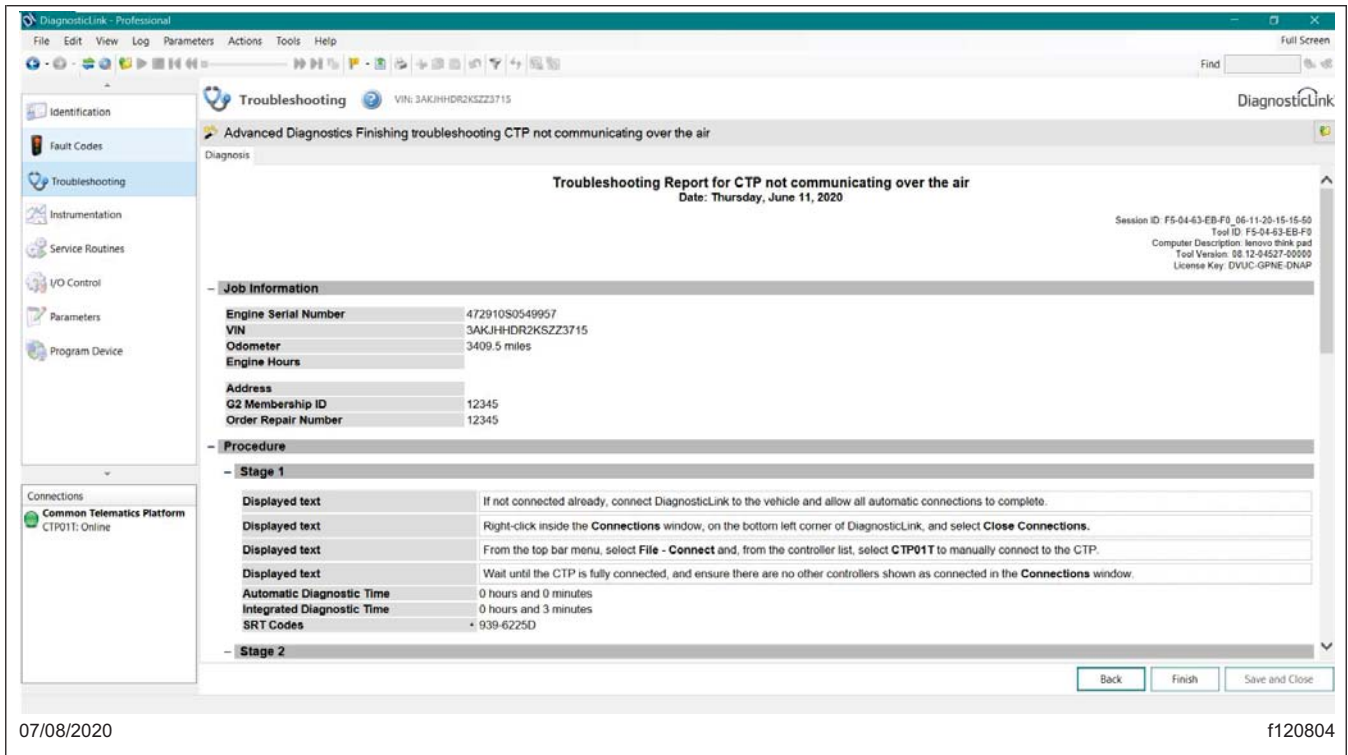
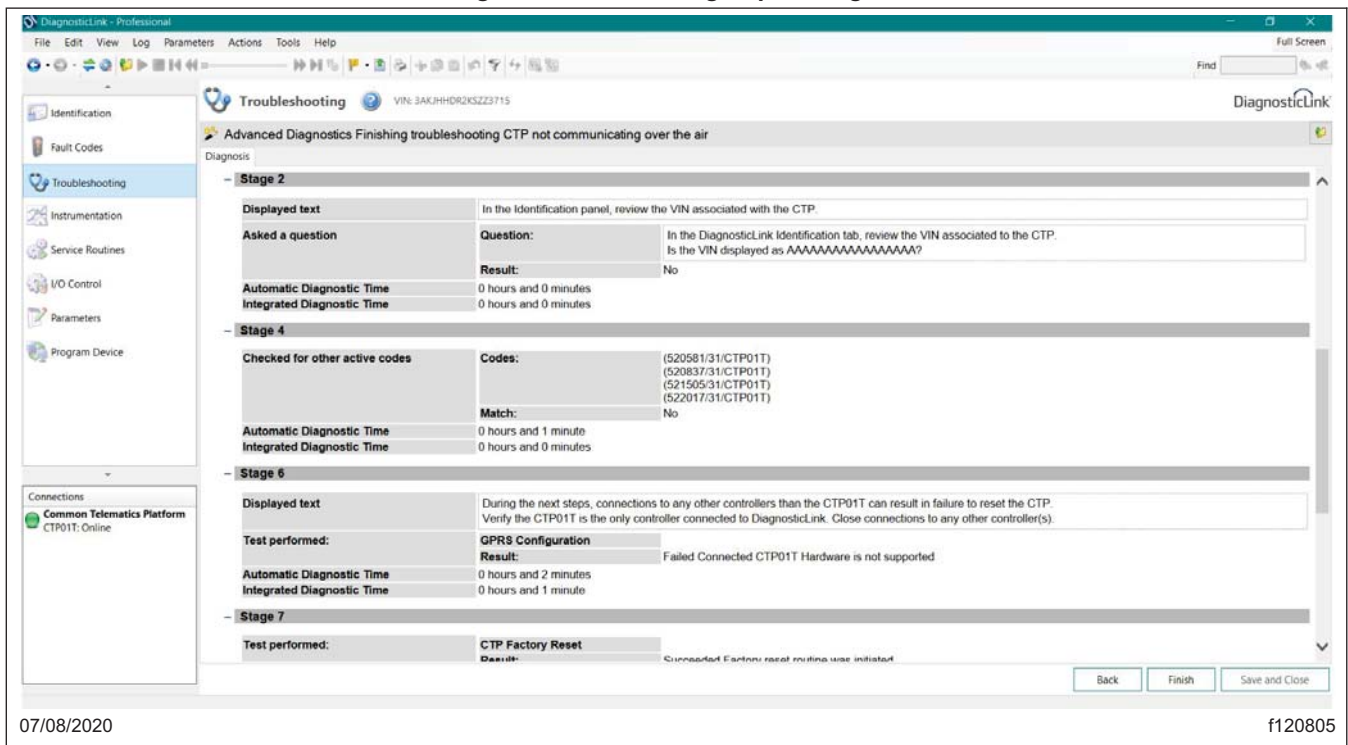
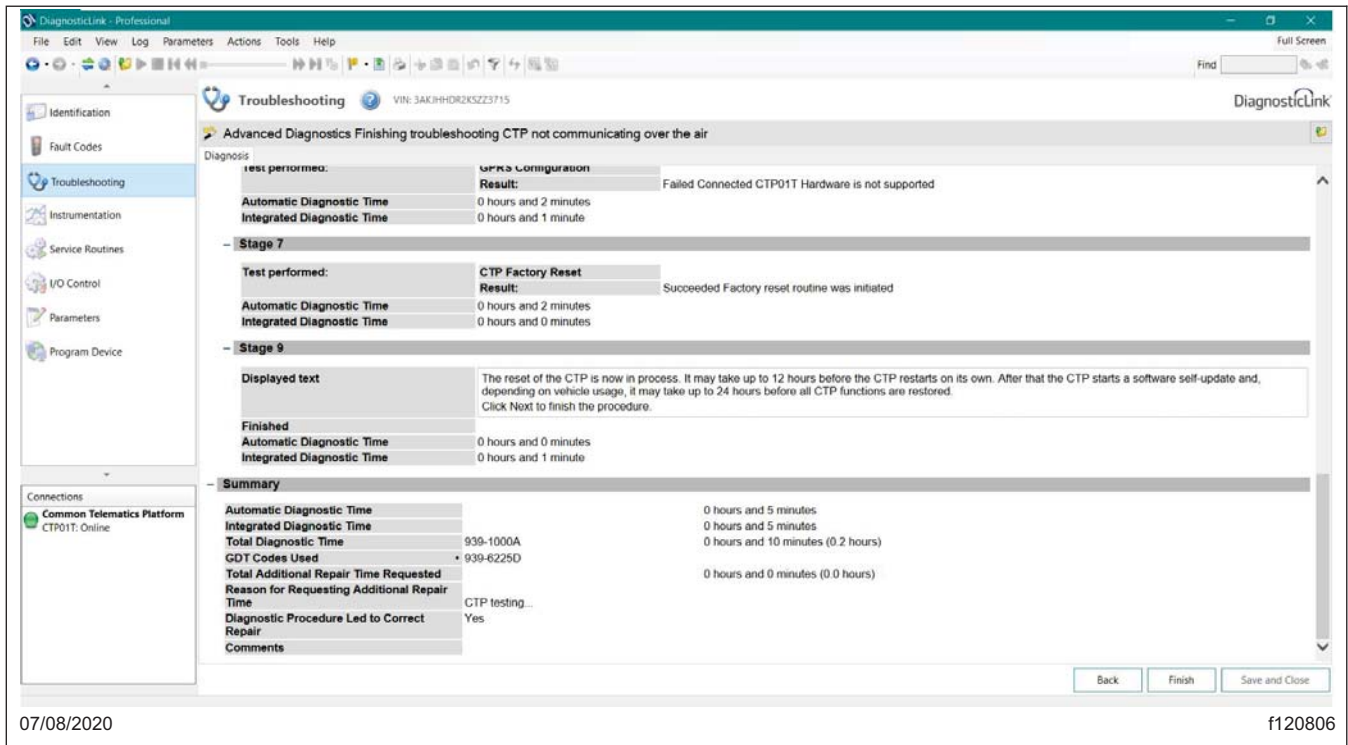

Fig. 4, Troubleshooting Report, Page 1
Fig. 5, Troubleshooting Report, Page 2
Fig. 6, Troubleshooting Report, Page 3
8.1 Review the Report pages, a copy should be saved for your records, click "Finish" to return to the Troubleshooting screen and complete the reset procedure. See Fig.4, Fig.5, and Fig.6.